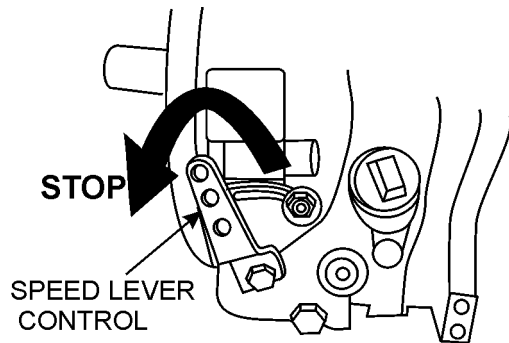

Figure 10. Engine Speed Lever Control (STOP)
2. After the engine cools, move the engine speed lever to the STOP position (Figure 10).